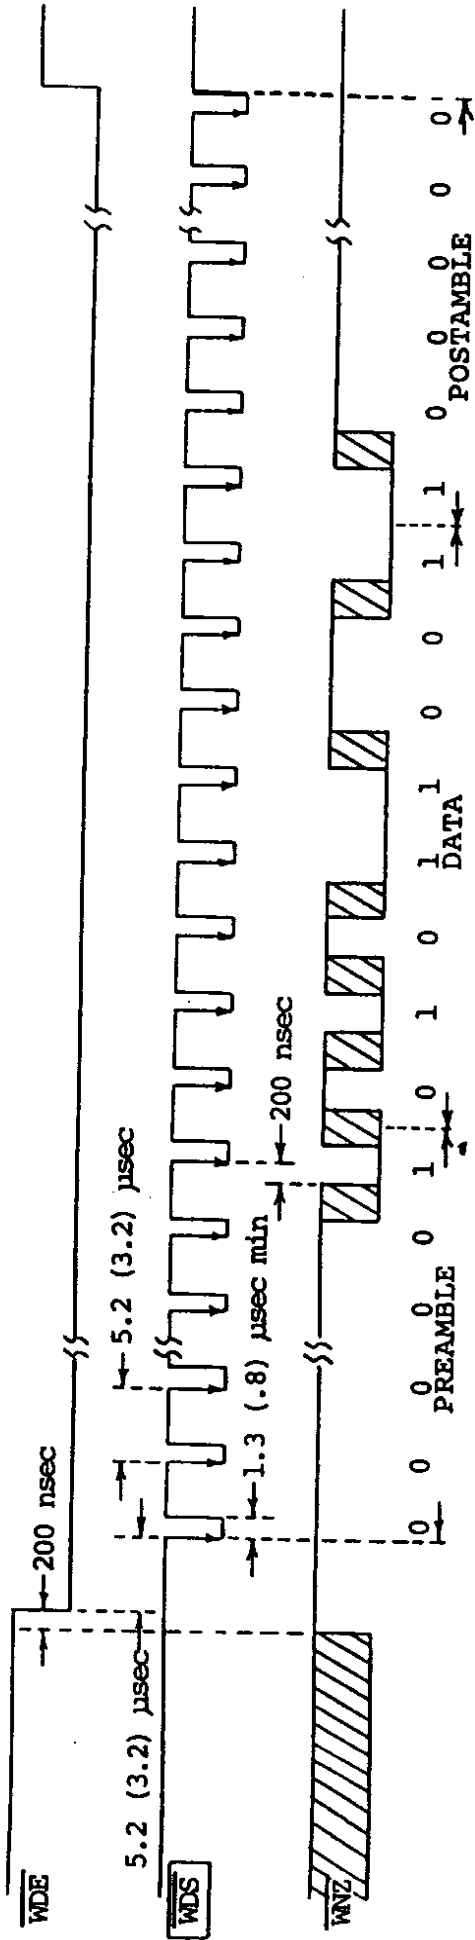

Figure 5.6, Write Waveforms
5.4.1 WRITE DATA. The write data is input to the drive as NRZ. The relevant signals are shown in figure 5.6. Note the following: